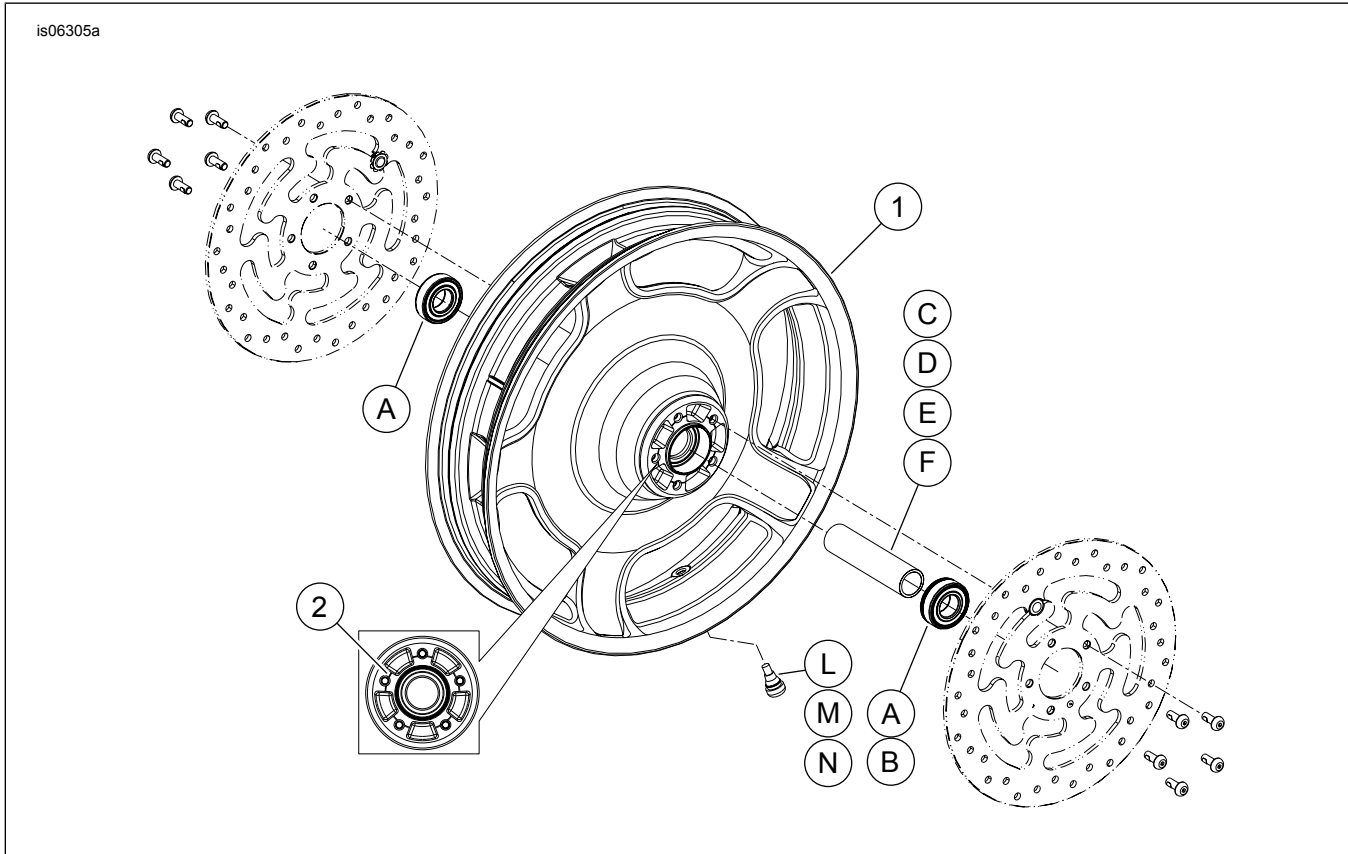

Figure 1. Service Parts: Front Slotted Disc Wheel
See Figure 1 and Service Parts Tables.
2. See Figure 1. Install valve stem assembly (L, M or N) on wheel. Refer to TIRES in service manual.